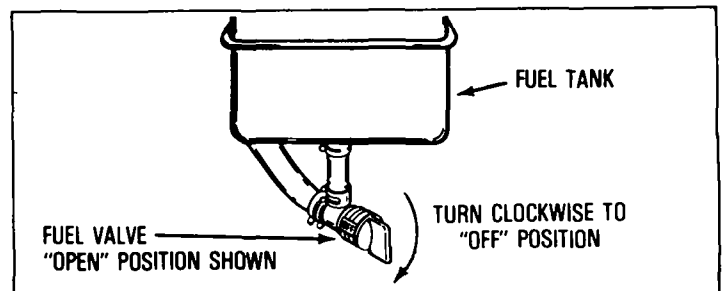

Figure 2
E. Be sure fuel valve (if so equipped - see Figure 2) is open.
- A. Close fuel valve (if so equipped - see Figure 2).